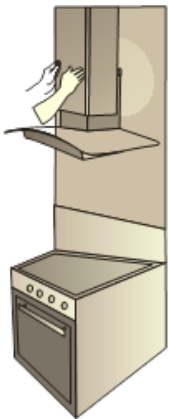
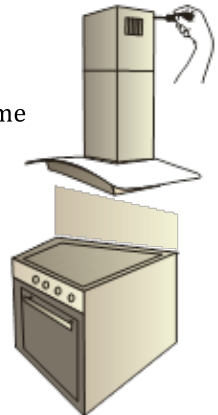

Figure 6
Figure 7
① Chimney hanging sheet metal and product hanging sheet metal are shown here.
② Drill two holes for Ø8 dowels and drill another two holes for Ø7 dowels. Fix chimney hanging sheet metal with 3,5x25 screws to Ø7 dowels. Screw the 4,8x50 hanger screws to the Ø8 mm dowels pounded on the wall. There must be 5 mm between the screw head and the wall. ③ Fix the product hanging sheet metal to the motor box with M4x18 screws. ④ Use M5x10 screws to assemble control panel and motor box. Then remove aluminum filters and connect the cables of motor box and control panel. ⑤ Hang the product to the 4,8x50 mm hanger screws you mounted in step 2. After that tighten the screws to prevent the product from moving. ⑥ After the installment of chimneys product will be fully ready to operate. It will be shown in Figure6 and Figure7.
hanging sheet metal with 3,5x25 screws to Ø7 dowels. Screw the 4,8x50 hanger screws to the Ø8 mm dowels pounded on the wall. There must be 5 mm between the screw head and the wall. ③ Fix the product hanging sheet metal to the motor box with M4x18 screws. ④ Hang the product to the 4,8x50 mm hanger screws you mounted in step 2. After that tighten the screws to prevent the product from moving. ⑤ and ⑥ After the installment of chimneys product will be fully ready to operate. It will be shown in Figure6 and Figure7.
Place the outer chimney onto the body frame (body exit). Then fix to the body with 3,5x9,5 screws. (Figure6)
Screw the inner chimney to the chimney mounting sheet metal fixed on the wall from its upper outer edge. (Figure7)